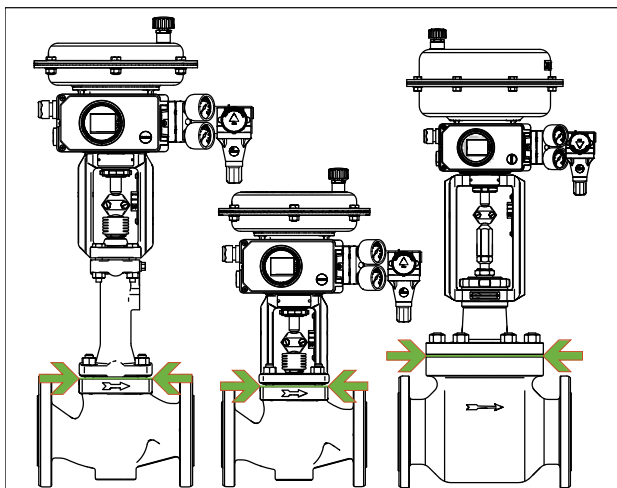

Fig. 21: Limit of insulation for control valves (example shown)
- ⇒ Only insulate control valves up to the bonnet flange of the valve body (see Fig. 21). This also applies to versions with bellows seal or insulating section at medium temperatures below 32 °F (0 °C) or above 428 °F (220 °C). If the insulating section is insulated, it will not function properly.